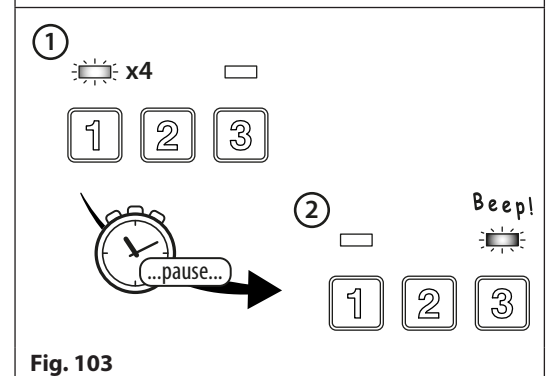

Fig. 103
2. The codelock will emit a low tone and the green data LED (**Fig.103**, ①) will flash 4 times followed by a brief pause;
3. The red status LED (**Fig.103**, ②) will then flash once and the codelock will emit a single beep.